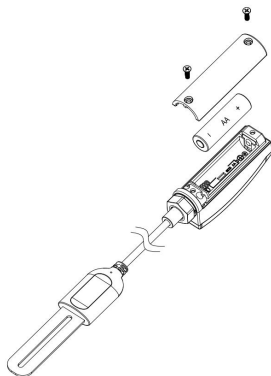

Figure 2
2. Insert one AA battery and tighten the screw of the battery compartment, like the Figure 2.